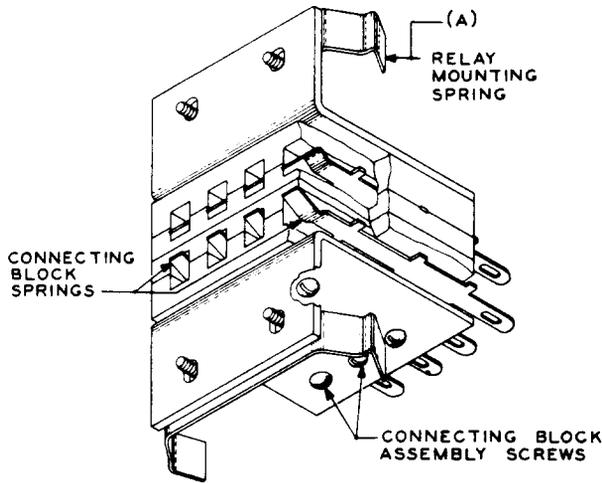

Fig. 1 - 18B Connecting Block
2.03 *Relay Mounting*: Fig. 1(A) — Relays shall be held securely by their associated mounting plate and connecting block.